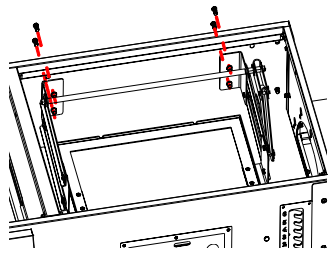

Fig. 16A
Refer to Fig.16A.Using (4)M6X15 bolts to fix the Charcoal Tray Lifting System.